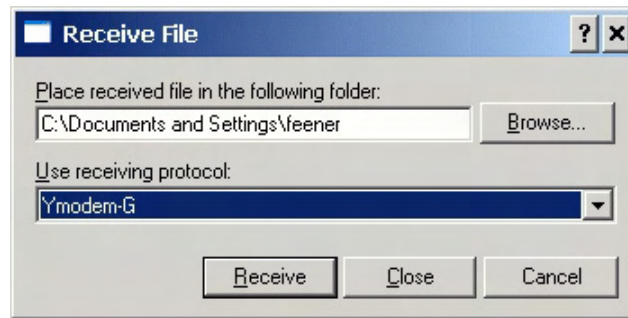

Figure 25 - HyperTerminal receive file screen
13. The STOR-X will then attempt to initiate a YMODEM transfer, but you must instruct HyperTerminal to receive the file. From the Transfer menu, select Receive File. In the Receive file window, configure the desired received file folder location, and set the receiving protocol to Ymodem-G, as shown below, then click the receive button. Note that if you take too long to configure this window, the download may time out, requiring you to repeat the previous step. The Receive file window is shown in Figure 25